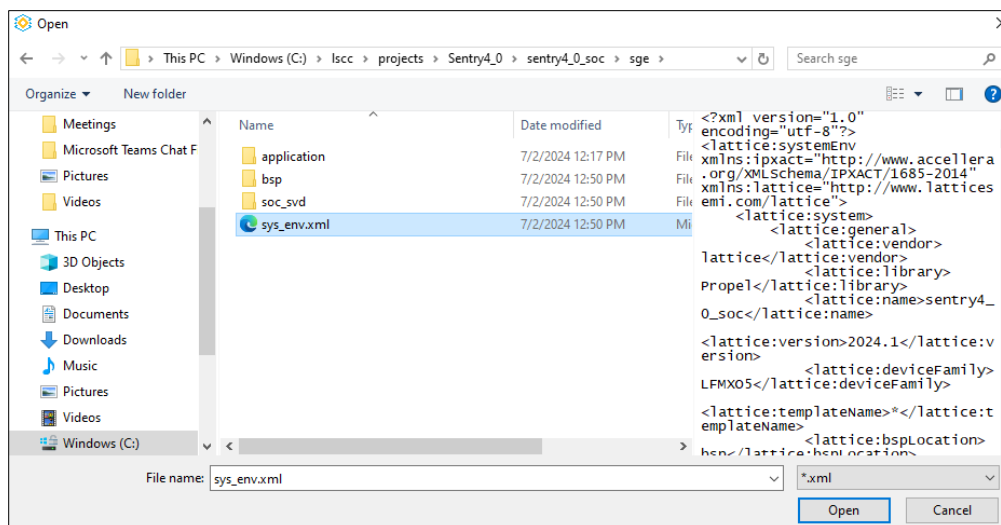

Figure 6.2. Directory Location of sys\_env.xml
2. In the **Update System and BSP** dialog box, click **Browse** next to **New System Env** and navigate to the following file (Figure 6.2):